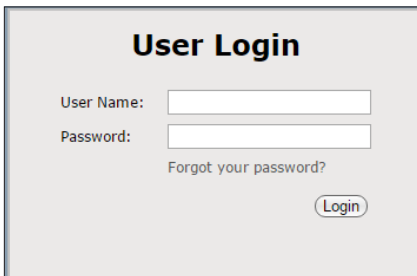

Figure 2
3. A User Login window, (**Figure 2**) will appear. There are two available user names, `uclock` and `sclock`, which represent the user and service access levels. The user security level allows access to everything but the Configuration Tab.